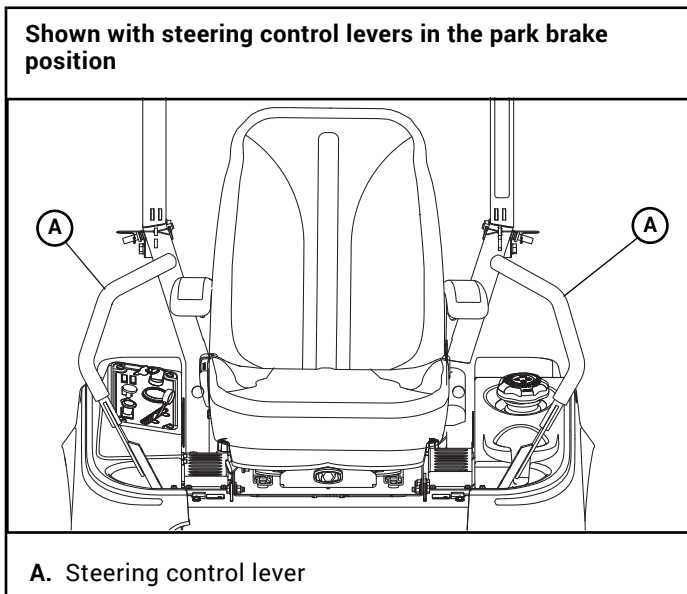

Figure 4-2
5. Set both steering control levers in the park brake position. Figure 4-2